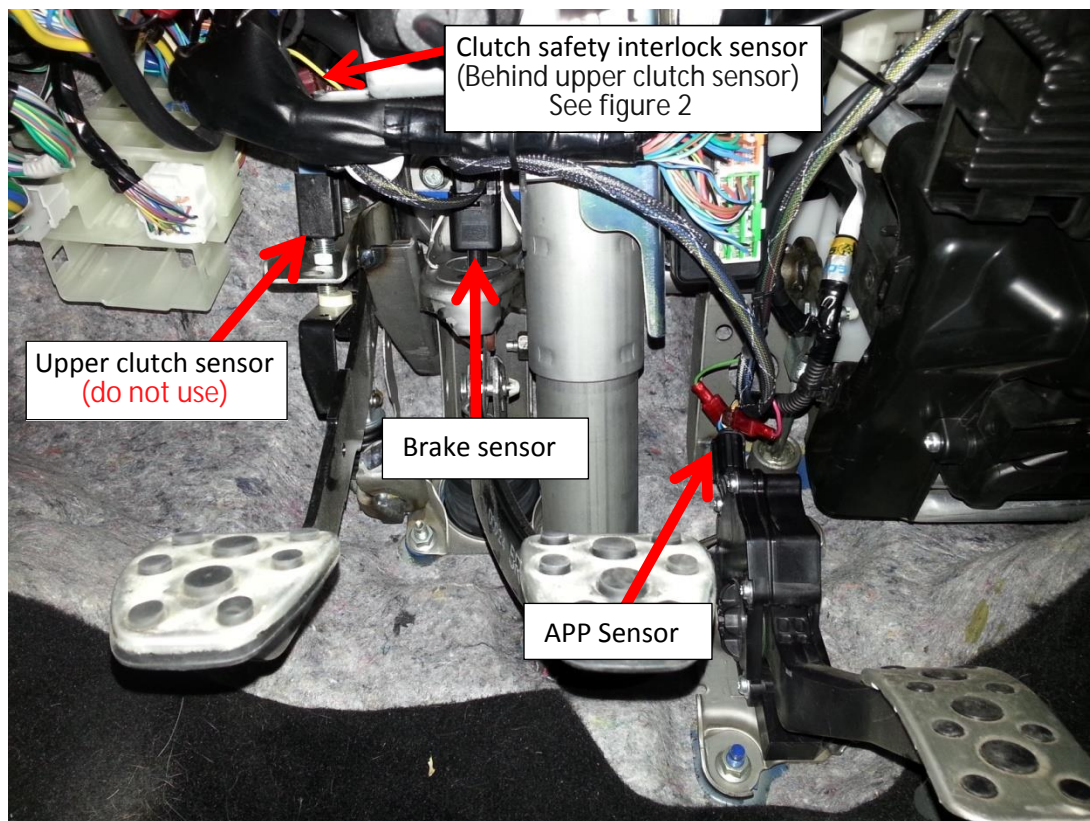
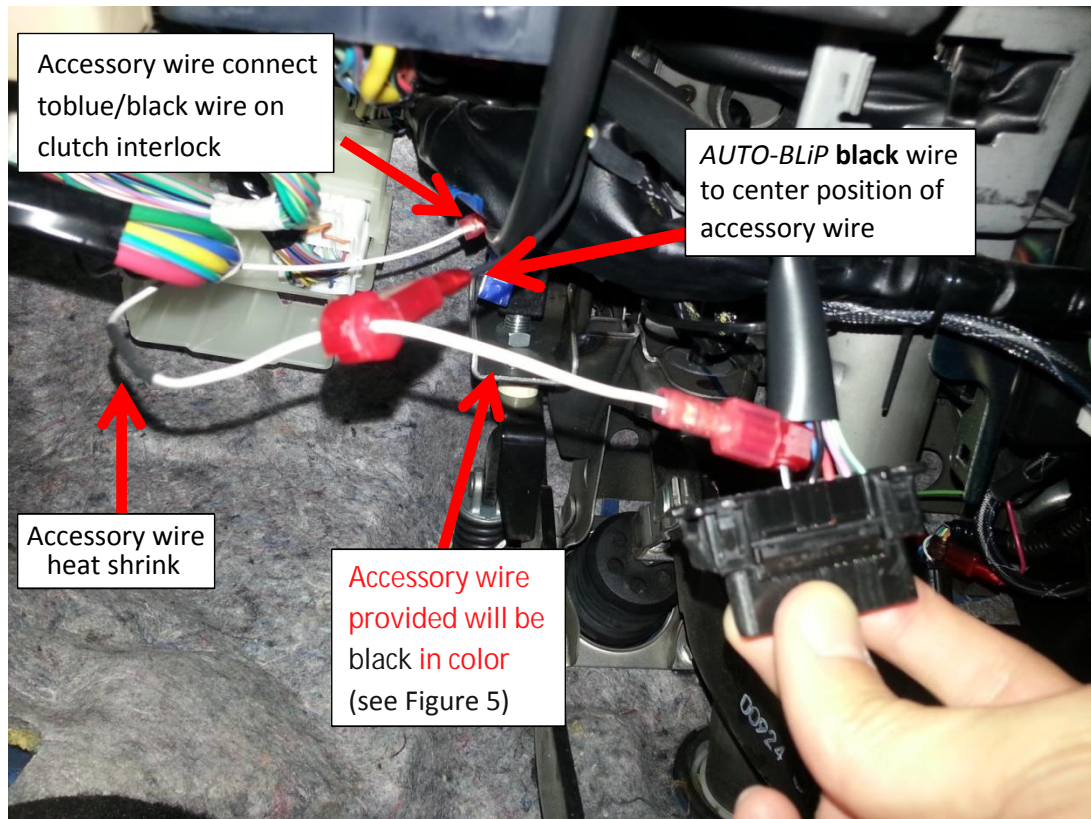
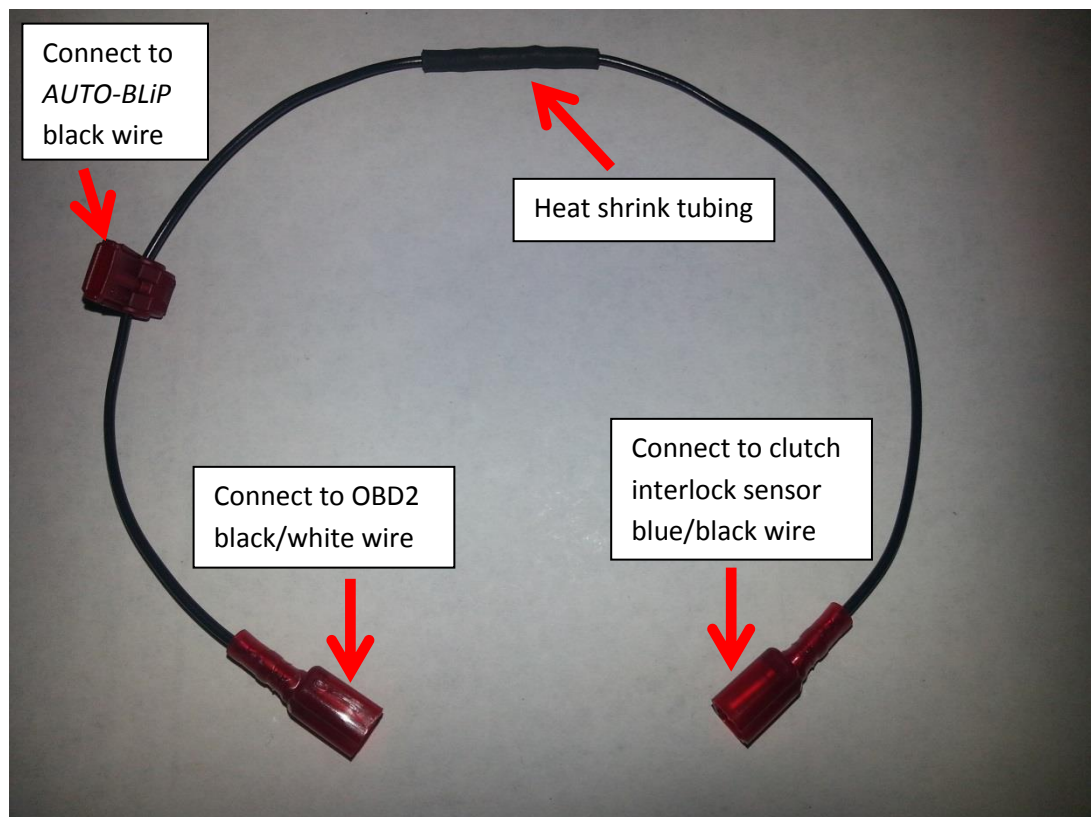

Figure 1 (General sensor location)
Figure 4 (OBD2 Connector)
Figure 5 (Accessory wire)
Note 1: For this vehicle an additional black accessory wire (Figure 5) has been provided. This wire must be connected between the OBD2 port pin# 5 (Black/White wire) and the LOWER clutch pedal safety interlock sensor (Blue/Black) wire (Figure 4).
1. This vehicle is equipped with two clutch sensors; For this step, you will be connecting to the **clutch safety interlock sensor (Figure 1)** which is activated at the very bottom of the clutch pedal travel. Connect one end of the black accessory wire (Figure 5) to the **blue/black** wire on the clutch safety interlock sensor (**Figure 1 & 2**)
3. Connect *AUTO-BLiP* **black** wire (AB harness) to the center Posi-tap on the black accessory wire (**Figure 4 & 5**)
4. Connect *AUTO-BLiP* yellow wire to the **blue/white** wire on the clutch safety interlock sensor (**Figure 1, 2, 8**)
5. Connect *AUTO-BLiP* white wire to the **white/blue** wire on the brake pedal sensor (**Figure 1 & 7**)
6. Connect *AUTO-BLiP* blue wire to the **brown/white** wire on the brake pedal sensor (**Figure 1 & 7**)
7. Locate Accelerator Pedal Position Sensor (APPS) (**Figure 1**)